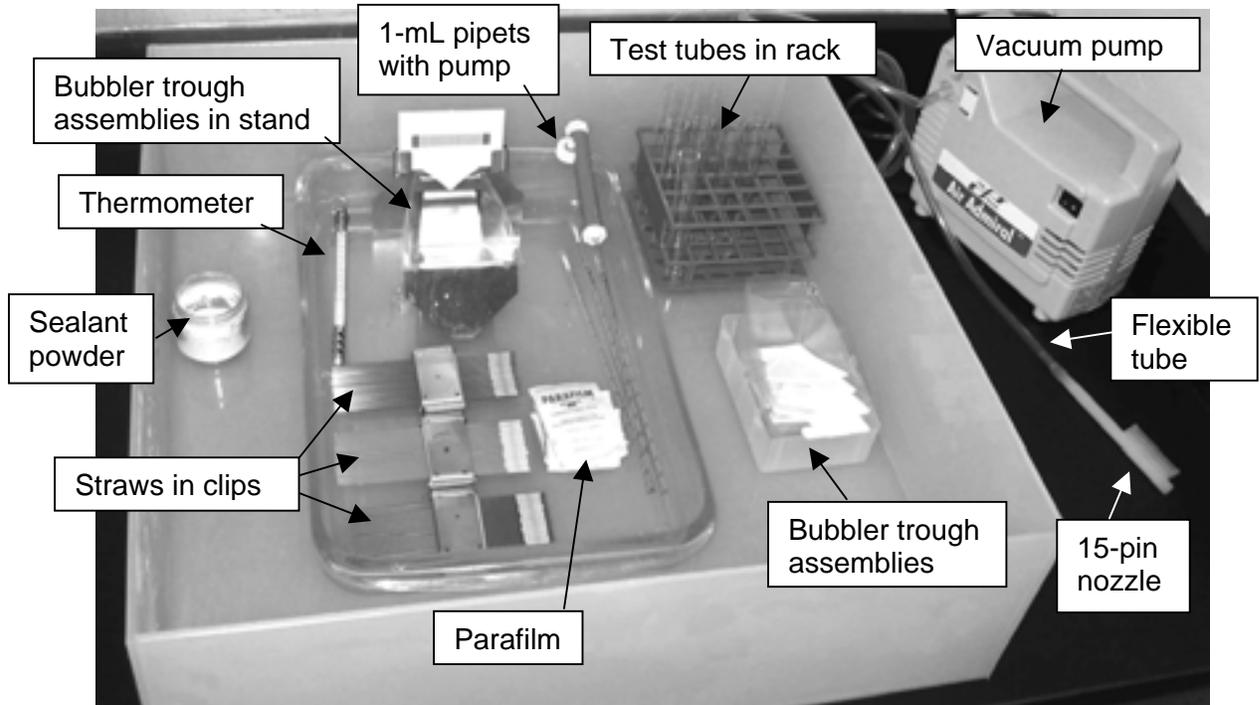

Figure 1.—Big Tray and working platform, with assembled materials.
Big Tray (2' x 2'), plastic, with cover (Figure 1)
Working platform or “drying tray” (13” x 9” x 2” glass cake pan) (Figure 1)
- 5) Assemble materials in Big Tray (Figure 1):
- 6) Place in Working Platform (Figure 1):